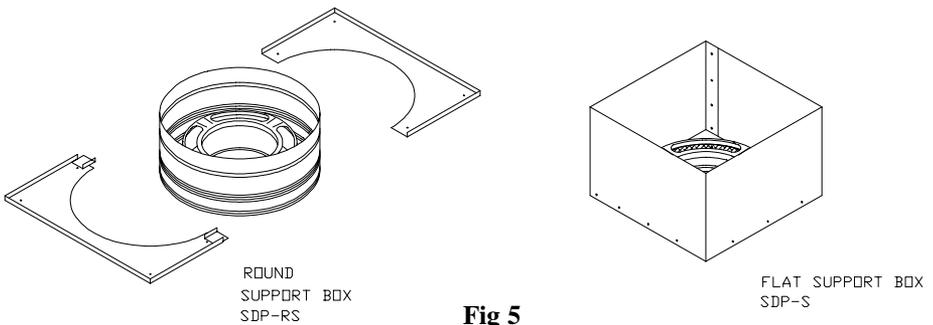
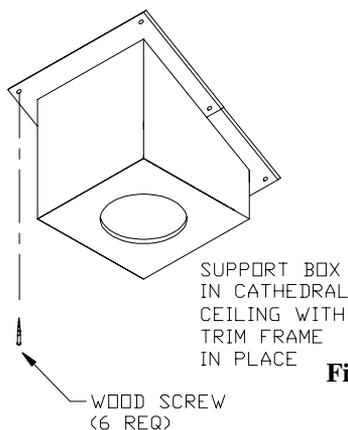

Fig 5
Fig 6
3. Install Support: Slip the **Support Box** ,(Figure 5), into the framed opening. It must extend at least **2 inches** below the finished ceiling. Level the **Square Support Box** and nail it to the framing using at least two 8-penny nails per side. The two **Trim Frames** are positioned as shown, and screwed through the ceiling and into the framing members with (6) 1-1/4 inch long round-head wood screws. (Figure 6). The bottom of the **Round Support** must also be at least **2 inches** below the finished ceiling. Trim for the **Support Boxes** is “U-shaped”. The trim pieces are adjusted to accommodate the **Square Support Box**, and screwed into the framing, using wood screws. A completed **Square Support Box** installed in a cathedral ceiling with the “U-shaped” trim is also shown in Figure 6. Trim kits are available in brass, antique brass, and chrome, to enhance the appearance of the various **Support Boxes** and **Trim Frames** . Where the chimney passes through additional floors